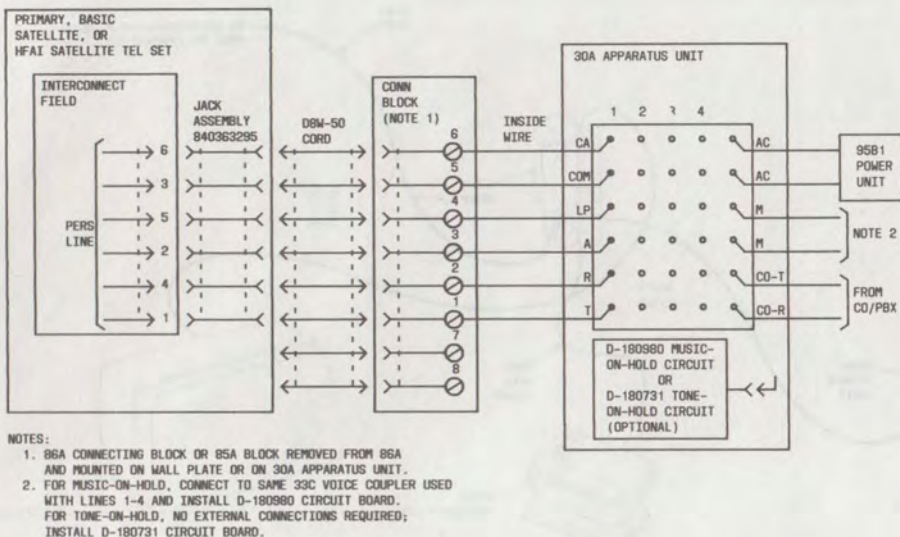

Fig. 43—Personal Line Connections for Primary, Basic Satellite, or HFAI Set Using 30A (MD) Apparatus Unit
(1) After the 30AM apparatus unit is connected to the 86A block associated with the BIS satellite set, no further installation is required. The DSW cord which connects power to the speakerphone circuit also provides the necessary personal line connections.
(2) Be sure that the personal line is connected to terminals 1 through 6 and the 2012B transformer to terminals 7 and 8.
In existing installations, the 30A (MD) apparatus unit may be used for personal line; it is permissible to reuse this unit in other installations. Connections are shown in Fig. 43 and 44.
3.70 Connections for personal line on the 30A (MD) apparatus unit are shown in Fig. 43 and 44.